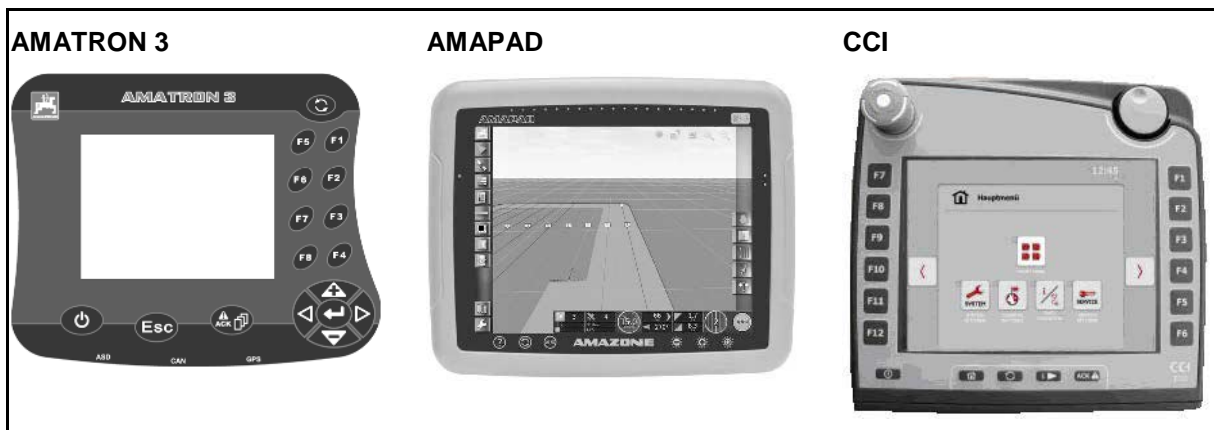

Fig. 73
- Remote-controlled changing from spraying position (Fig. 73/A) to flushing position (Fig. 73/B).
Change from filling position (Fig. 73/C) to spraying position (Fig. 73/A) via operating terminal or on control terminal (Fig. 73/1).